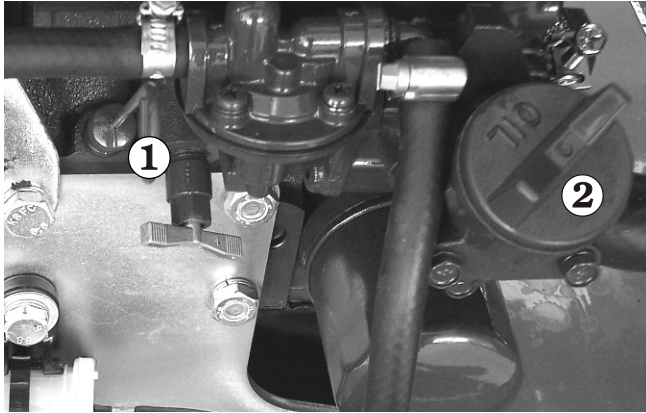

Figure 7.6 - Engine Oil Level
Keep the oil level between the marks on the dipstick ① (see Figure 7.6).
The distance between the top and bottom dipstick marks corresponds to about 1 qt. (one liter). Add oil, if needed at the cap ② (see Figure 7.6), there is an alternative filler cap on top of the engine.